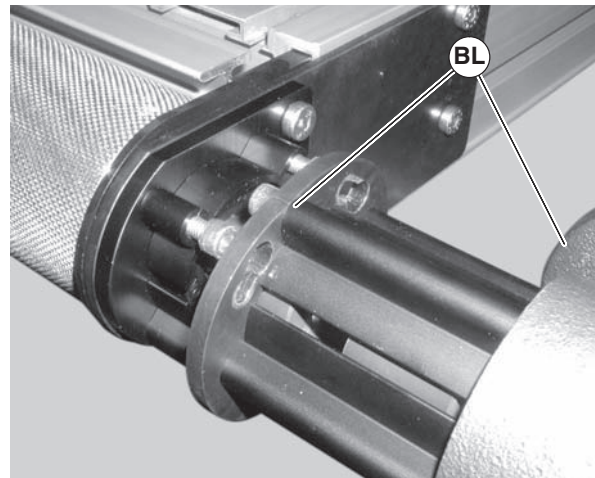

Figure 46
- c. Rotate and remove the gear motor and guard assembly (Figure 46, item BL).